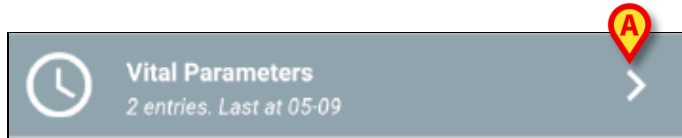
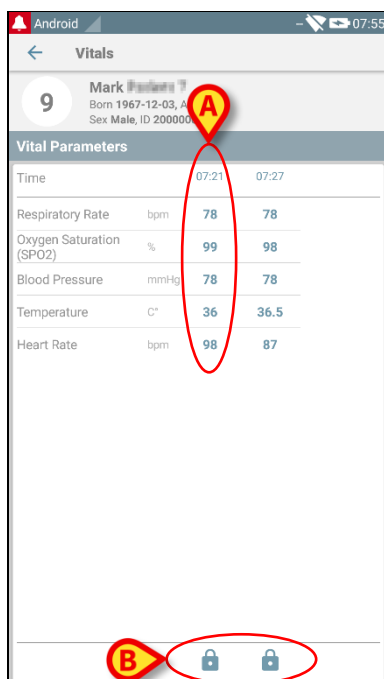
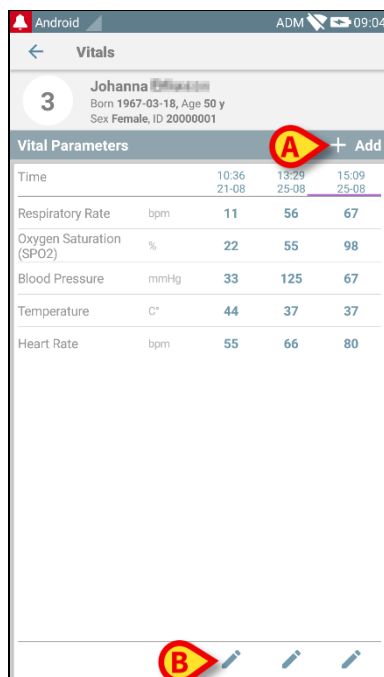

Fig 62
Fig 63
Fig 70
If the **+** button is not present on the tile it means that the dataset is not enabled (see paragraph 7.4.5 for more information). The tile is still displayed because past data exists for that dataset, which can be still viewed. See for instance Fig 62.
The arrow (Fig 62 **A**) makes it possible to display the past data. See for example Fig 63.
For each entry (i.e. a set of values), date and time are displayed on top. The recorded values are displayed below. See for instance the column indicated in Fig 63 **A**.
The “lock” icon indicated in Fig 63 **B** means that the corresponding score cannot be edited. Otherwise a “pen” icon is displayed (see for instance Fig 70).
The recorded sets of values are displayed in a specific summary screen. Again, the screen features depend on the kind of dataset acquired. See Fig 70 for an example.
- On this screen, touch **Add** to add another set of data (Fig 70 **A**).
- Use the “Pen” icon to edit the data of an existing set (Fig 70 **B**).